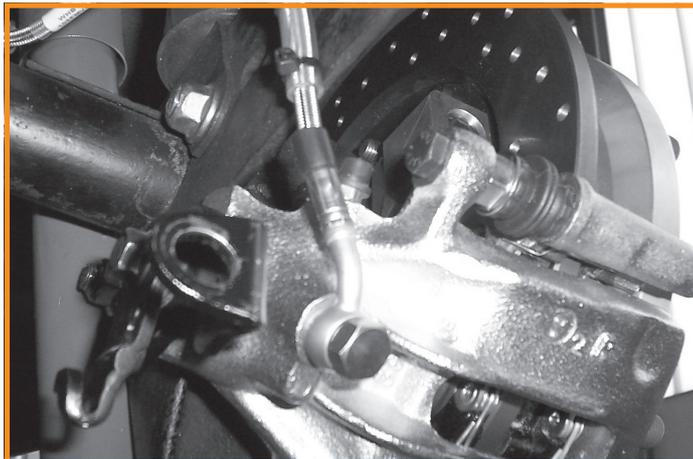

Fig. 9
- Use the supplied banjo bolt and copper washers, connect the banjo fitting to the caliper. See Fig.8 & Fig.9.